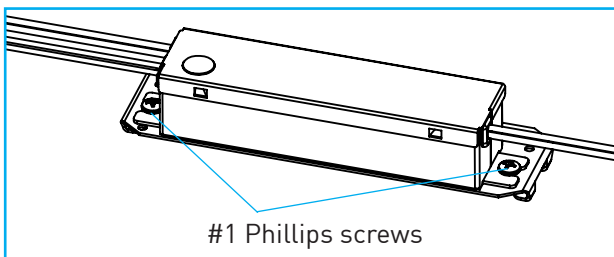

Fig.58
- F. Remove driver from sled and replace with OEM driver sourced through Lucifer Lighting *"Fig.58"*.